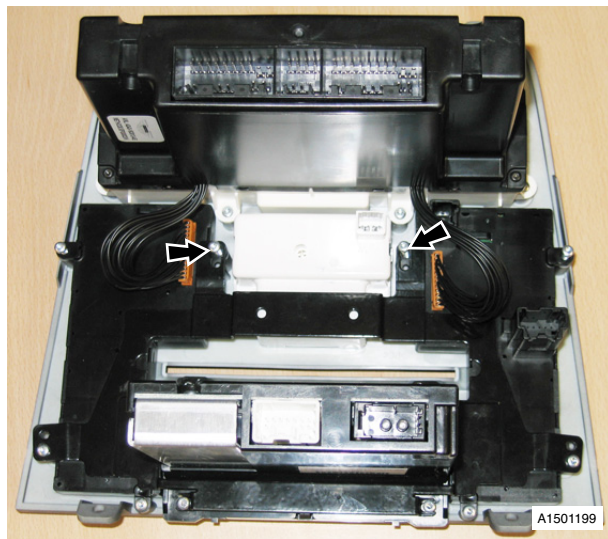

Fig. 4
- Remove screws (x2) securing clock unit, remove clock unit (see Fig. 4).